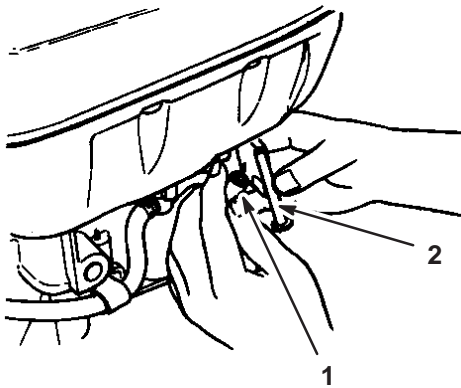

Figure 18
7. Remove the fuel tube on the fuel tank by loosening the tube clamp (Fig. 18).
8. Remove the fuel filter from the fuel tank (Fig. 18).